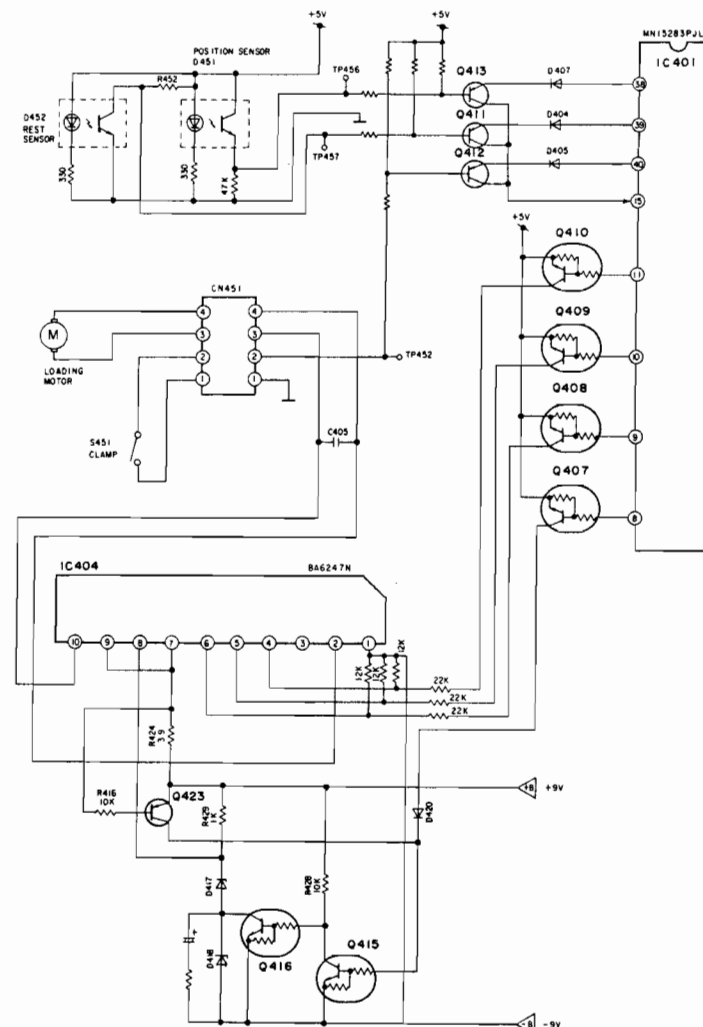

Figure 14 Loading Motor Drive Circuit
8. Loading motor drive circuit (Refer to figure 14)